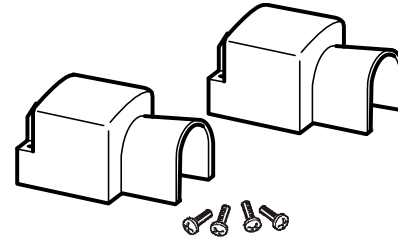

Figure 4 DC Terminal Covers
10. To protect the DC terminals, attach the DC terminal covers (Figure 4) to the inverter/charger, using the screws provided.